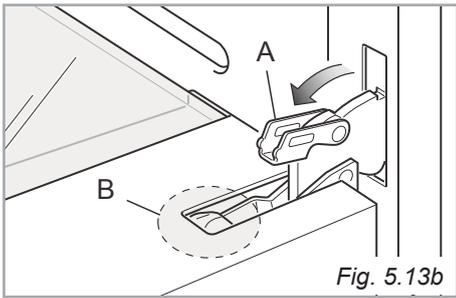
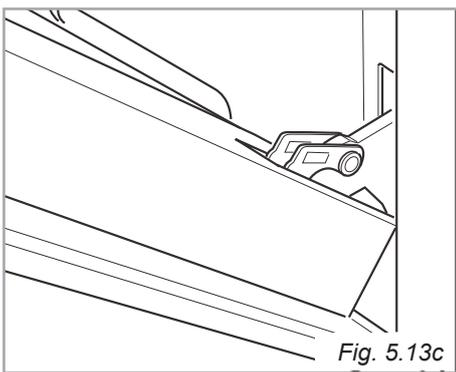

Fig. 5.13b
Fig. 5.13c
- Open the lever "A" completely on the left and right hinges (fig. 5.13b).
- Gently close the door until left and right hinge levers "A" (fig. 5.13b) are hooked to part "B" of the door (fig. 5.13c)